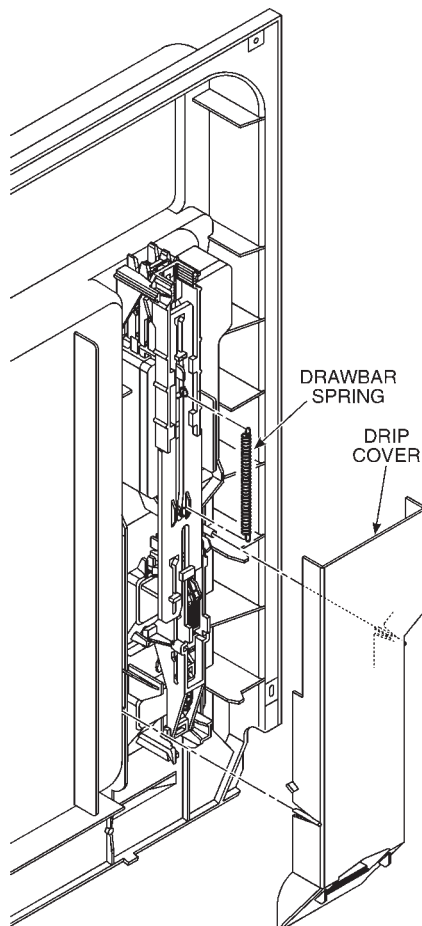

Fig. 1-26
1. Remove the drawbar spring. (Fig. 1-26)
12. Install the drawbar spring. (Fig. 1-26)